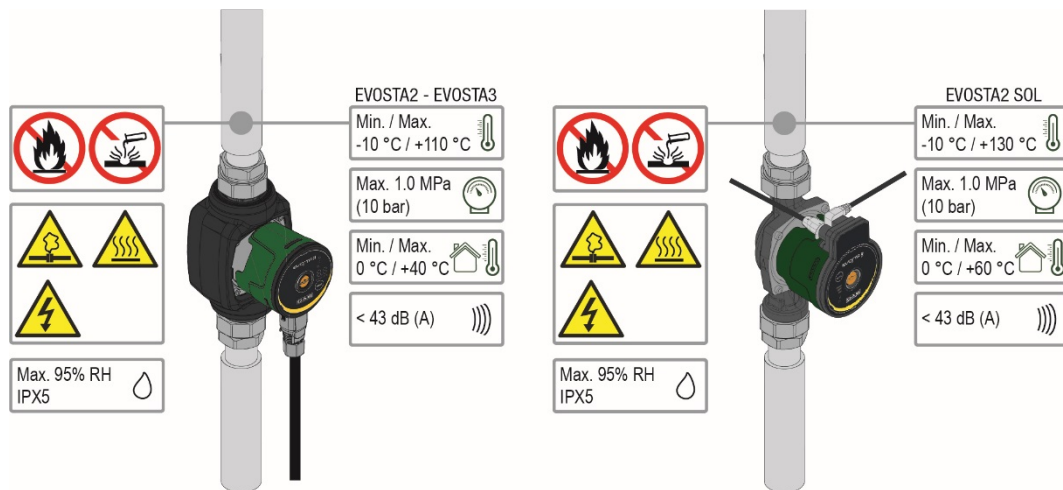

Figure 1: Pumped liquids, warnings and operating conditions
The arrows on the pump housing indicate the flow direction through the pump. See fig. 1, pos. A.
1. Fit the two gaskets when you mount the pump in the pipe. See fig. 1, pos. B.
2. Install the pump with a horizontal motor shaft. See fig. 1, pos. C.